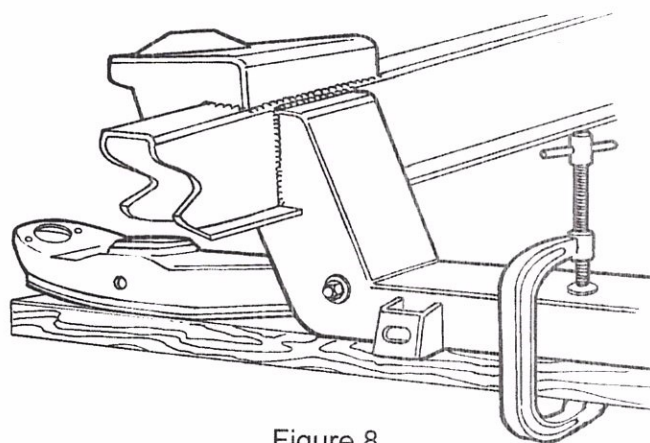
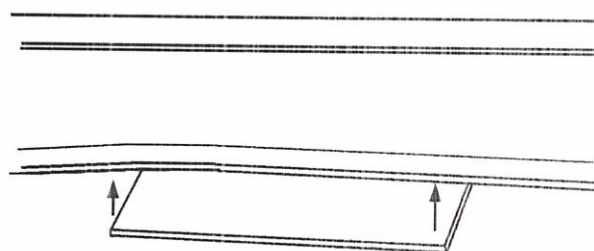

Figure 8
Figure 9
8. If you are using factory lower control arms and strut rods you will continue here. Use the lower control arm and strut rod for locating the rear strut rod supports and gussets. Using a 2 x 4 and a C-clamp, install the control arm as shown in Figure 8.
9. Install the strut rod onto the control arm. Now, assemble onto the strut rod the large rubber bushings, including the cupped washers, and the strut mount plate. Be certain to fully tighten the nut on the strut rod to its' fully seated position. (See Figure 8) There are two rubber bushing sets available; the standard replacement and the improved set. We recommend the improved set, as it provides more stability to the front suspension. The Pinto and Mustang strut rods are different lengths. We recommend the use of Pinto strut rods, as they are bent less than the Mustang strut rods. You will find that with either strut rod the strut rod plate does not line up with the bottom of the frame rail. The strut rod must be heated in the elbow area and bent outward. The rod is bent outward until the strut mounting plate lines up to the frame rail. You will find that because the Pinto strut rod is initially bent less and requires much less bending. Before welding the strut rod mounts to the frame, install the two reinforcement plates on the underside of the frame as shown in Figure 9. Position the plates so the strut rod mounts and gussets are approximately centered on them. Weld in place, all around.